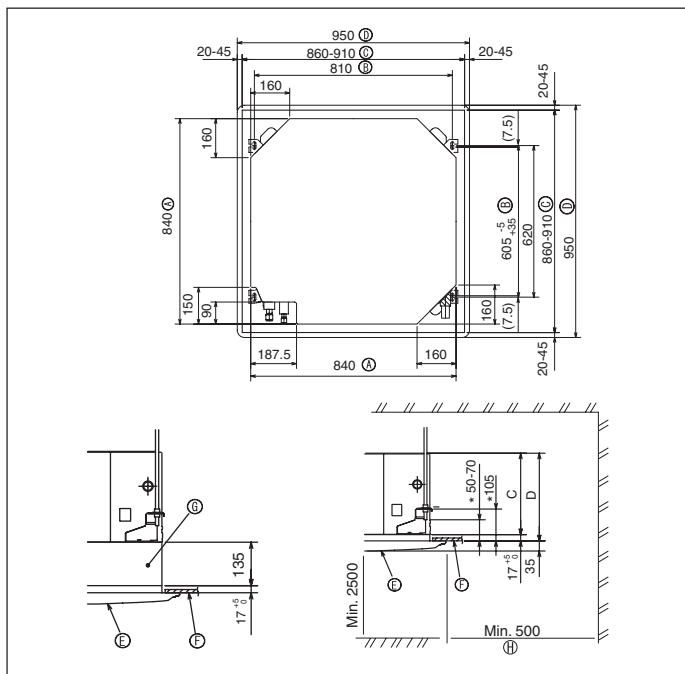

Fig. 3-2
④	Band	8
⑤	Screw with washer (M5 x 25) for mounting grille	4
⑥	Drain socket	1
⑦	Insulation	1
⑧	Flare nut 1/4F(P60)	1
3.2. Ceiling openings and suspension bolt installation locations (Fig. 3-2)
- The dimensions of ceiling opening can be regulated within the range shown in Fig.3-2; so center the main unit against the opening of ceiling, ensuring that the respective opposite sides on all sides of the clearance between them becomes identical.